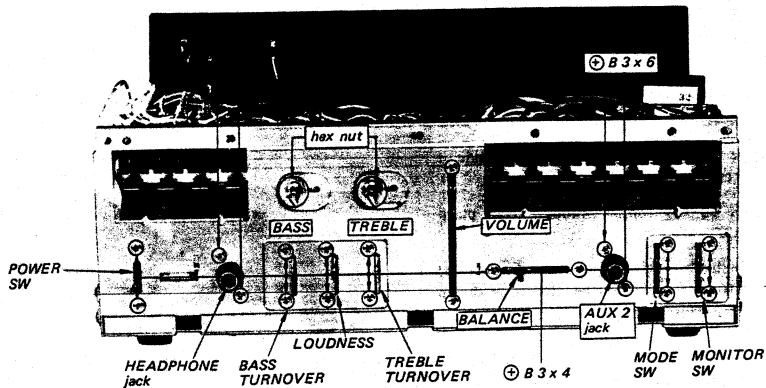

Fig. 2-4. Control and switch replacement
1. Remove the two screws securing switches, jacks and control to the front subchassis as shown in Fig. 2-4.
1. Remove the hex nuts securing BASS and TREBLE controls to the front subchassis as shown in Fig. 2-4.